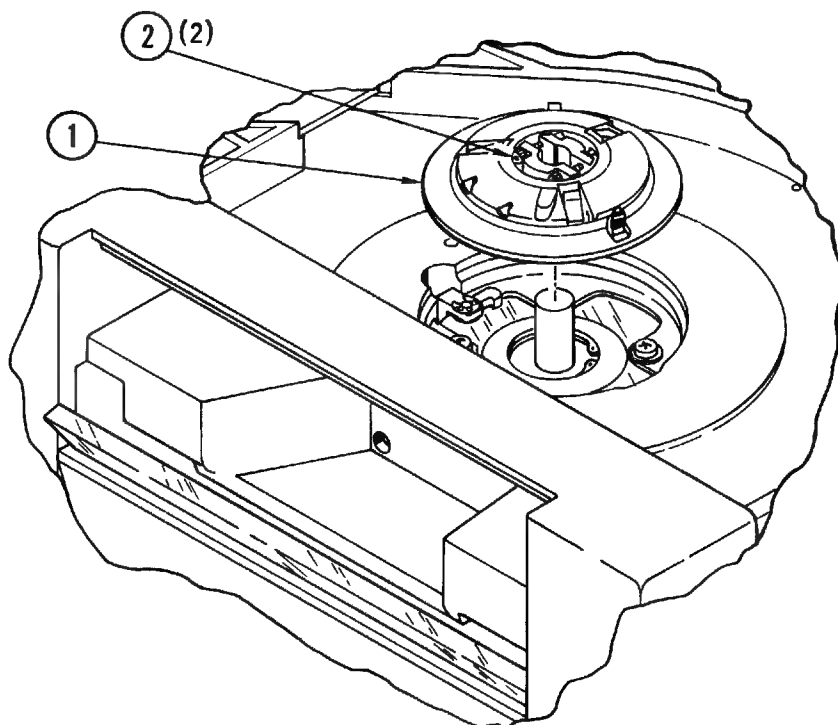
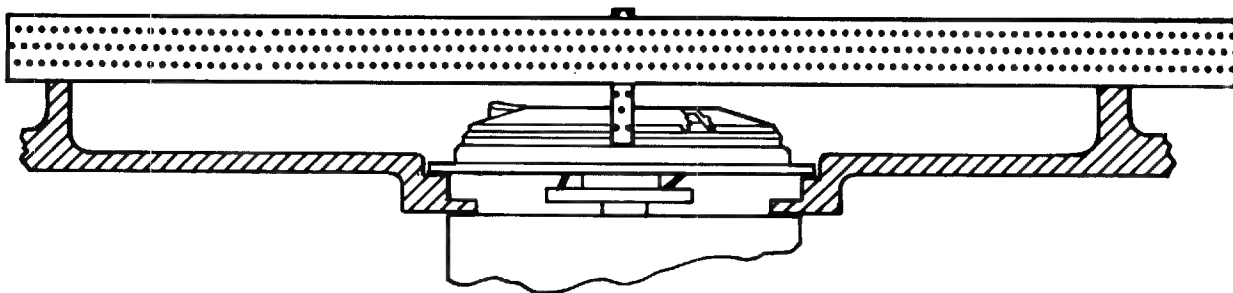

Figure 4-8. Supply Hub Assembly
Figure 4-9. Supply Hub Adjustment
4-23. **Removal, Replacement and Adjustment (Figure 4-8).** Place transport in operator maintenance access position (paragraph 4-2) and proceed as follows:
- a. Rotate hub assembly (1, Figure 4-8) so that socket-head screws face front panel door.
- b. Open front-panel door and loosen socket-head screws (2).
- d. Install replacement hub on shaft, and position hub height gauge, Cipher Part No. 760105-545, as shown in Figure 4-9 so that it contacts the raised machined surface of the top plate. Raise the supply hub until the reference surface contacts the hub-height tool.
- e. Ensuring that hub-height tool is in contact with both the top plate and reel hub, tighten socket-head screws (2).